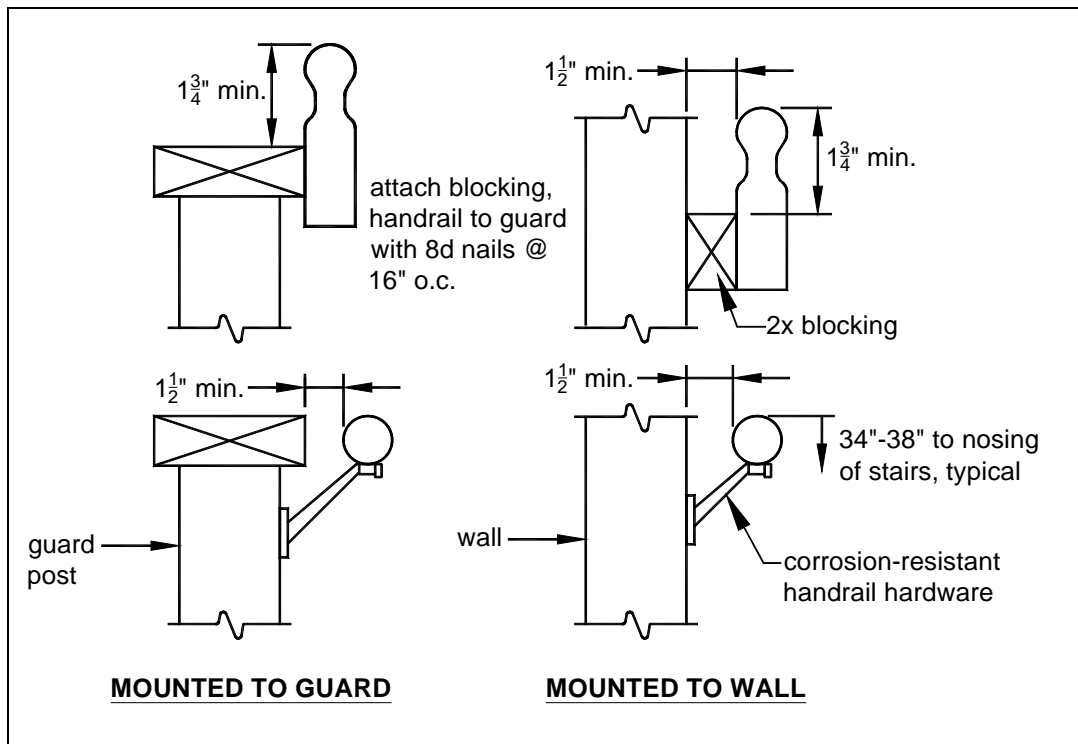

FIGURE 39: HANDRAIL REQUIREMENTS
- Handrail shall be attached to the stair guard or an existing exterior wall which acts as a barrier to the stairs. See FIGURE 39.